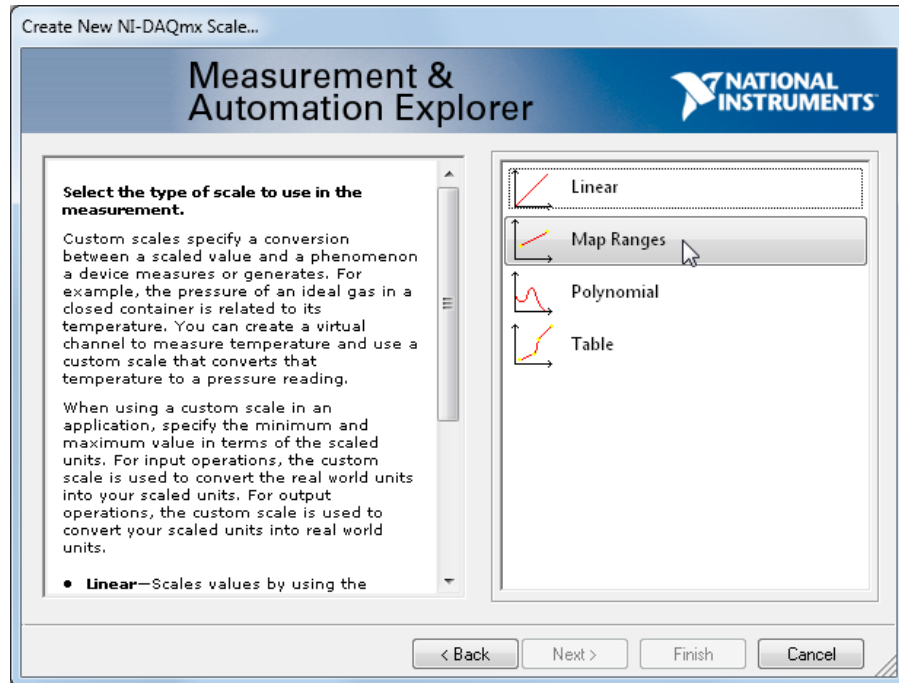

Figure 10. There are several different scaling options for NI-DAQmx Scales.
- c. Select **Map Ranges** as shown in Figure 10.